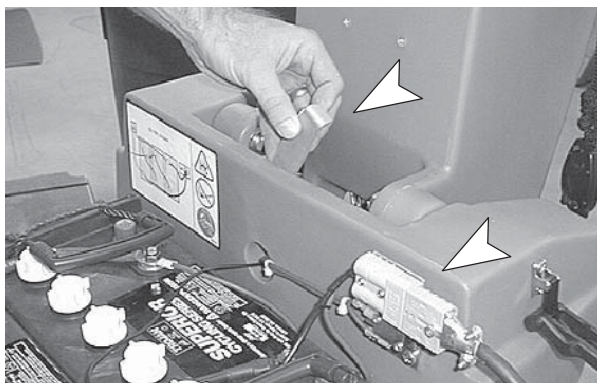

FIG. 24
- Connect battery charger into machine as shown. Flip up hood support stand and rest hood on stand to promote ventilation (Figure 24).